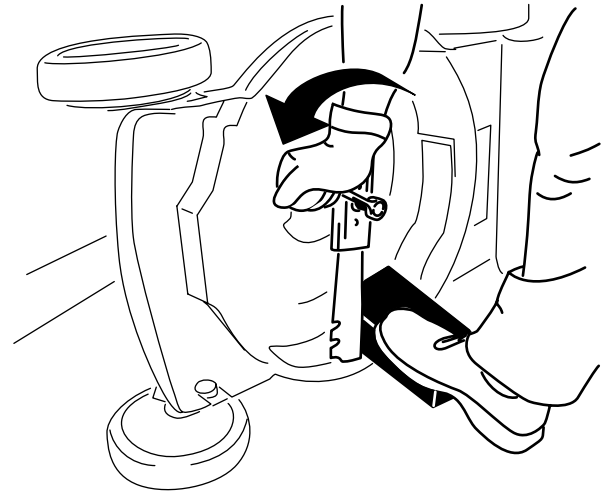

Figure 17
2. Use a block of wood to hold the blade steady (Figure 17).
3. Remove the blade bolt and blade; save the blade bolt (Figure 17).